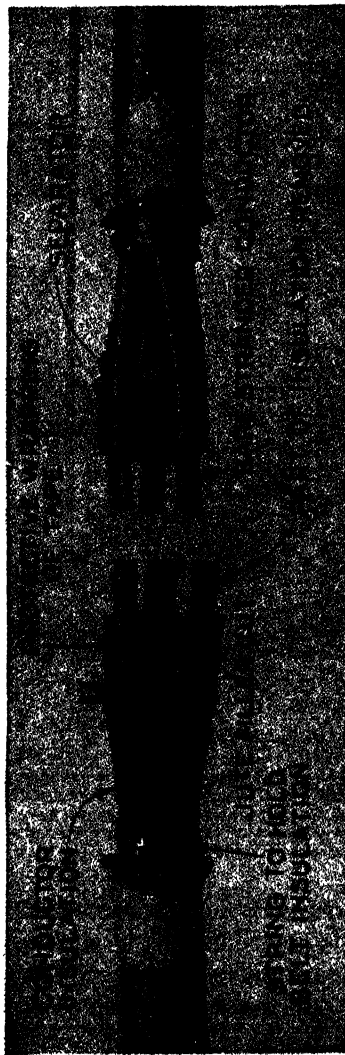

FIG. 6,054.—Appearance of cables in position with lead sheath removed and sheath ends belled. Note treatment of conductors to be joined.
FIG. 6,053.—Rounding or shaping conductor strands. It will be noticed that the conductor stranding is of sector form, and this must be brought to circular form so that the connector can later be properly put on. The operation is easily done by means of the special claw plier tool here shown, although ordinary gas pliers are generally used. The belt of insulation left over the conductor protects the strands from the teeth of the pliers. After shaping, this insulation is removed exposing the conductor.
**Rounding.**—Measure off  $1\frac{3}{4}$  ins. from end of conductors and cut off half of the insulation with an insulation cutter, as shown in fig. 6,052. The conductor strands should be shaped to the form of a circle, that is *rounded*, by the use of gas pliers, or the special wrench shown in fig. 6,053.
**Placing Connectors and Sweating.**—Put the conductors in alignment and place over each butting pair a split connector. Squeeze up connector with gas pliers, using paper or other protecting layer between pliers and connector, as shown in fig. 6,055 (for one conductor).
During this operation one or more of the strands may be squeezed out of the connector; if so, they are easily bedded by the use of the special pliers shown in fig. 6,056.